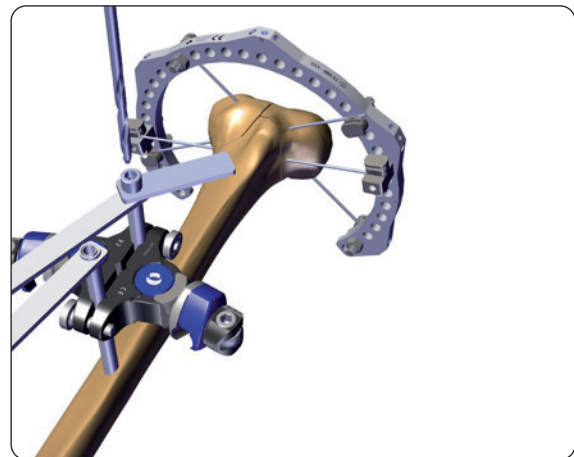

Fig. 8
- Insert the drill guide (4.8mm) and drill bit (4.8mm) through the screw guide (**Fig. 8**)